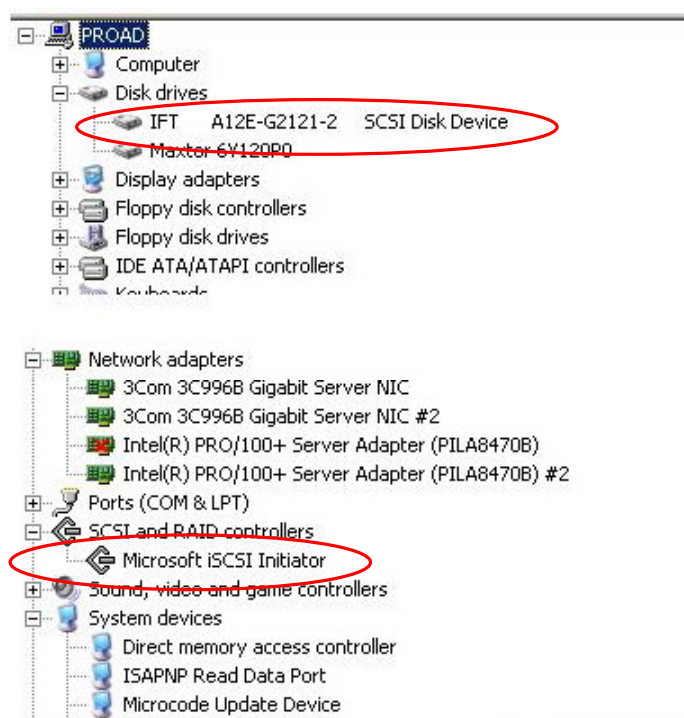

Figure A-8: Device Manager Tree Table
-  **Step 9.** Click on the **Device Manager** on the tree table located on the left side of the **Computer Management** window. The single or multiple logical drives of the EonStor RAID subsystem should be detected and the Microsoft iSCSI Initiator program should be installed properly as seen in *Figure A-8* below.